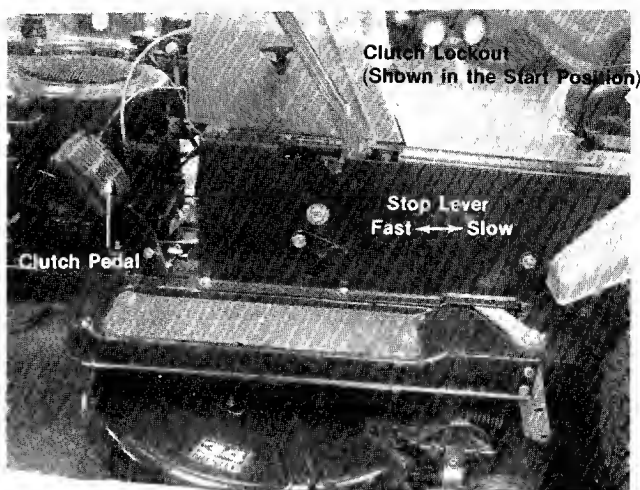

FIGURE 9. LEFT HAND CONTROLS
e. Clutch Pedal. The clutch pedal is used to disengage the drive mechanism. Depressing the clutch pedal at any time will reduce mower speed. If depressed all the way, it will stop the mower. See figure 9.
g. Stop Lever. The stop lever allows you to regulate the maximum ground speed of the riding mower by setting the stop lever in any one of the five settings. The farther forward the stop lever is set, the faster the ground speed. See figure 9.
- Step 2. Place the clutch lockout in the **START** position. See figure 9.